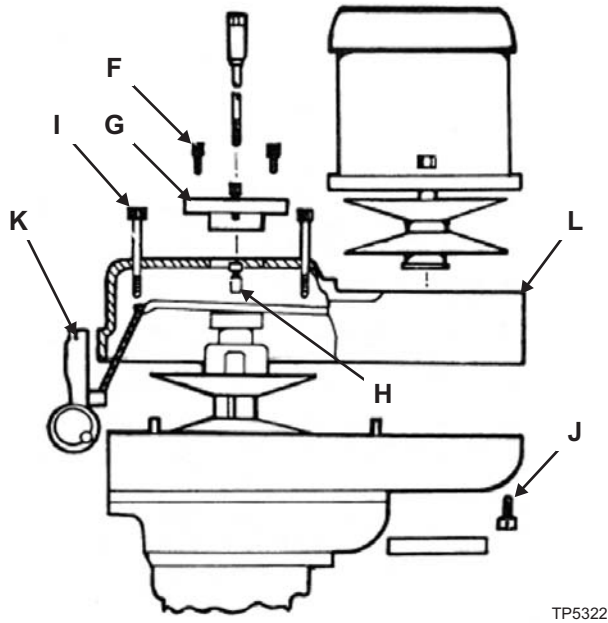

Figure 4.3 - Drive Belt Replacement
2. Remove three screws "F", Figure 4.3. Insert them into the adjacent tapped holes and withdraw bearing housing "G".